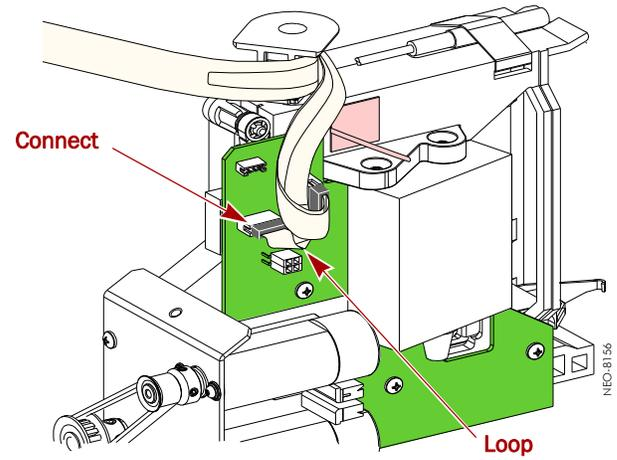

Figure 14. Connect the Power Cable
- c. Carefully, without bending the cable, insert the **Power connector** into **J2** (Figure 14 & Figure 20).